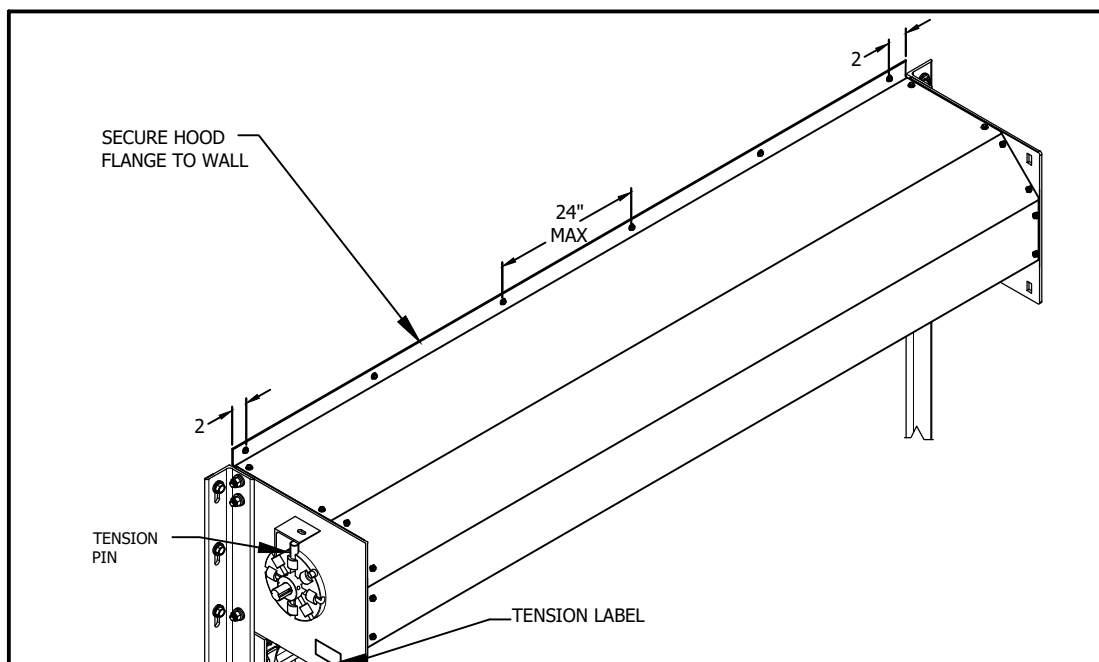

FIGURE 20
- e. Insert tension wheel pin as shown in Figure 20.
- b. Attach hood to headplate hood bands with self-drilling fasteners provided and approved by ASTA AMERICA. Use two fasteners per flat hood surface as shown in Figure 20.